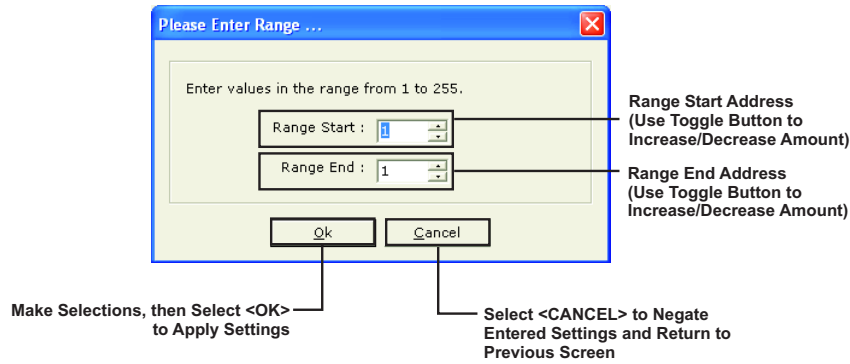

Figure 2-45. Device Range Definition for MACROs Screen
2. Select a device by either double-clicking on the device name or by highlighting the device name, and selecting **<OK>**. Figure 2-45 displays.